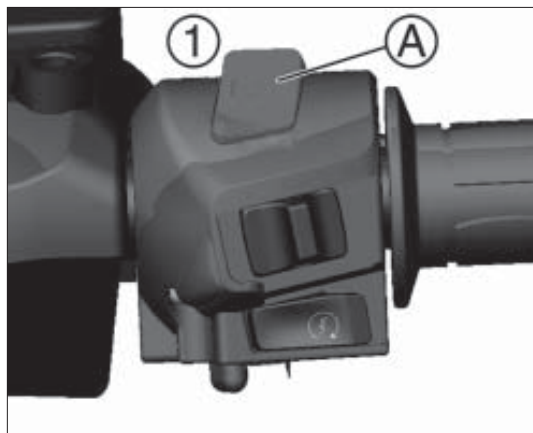

fig. 3
1. press the stop engine command A fig. 3 in position 1, leaving the ignition key in  position;